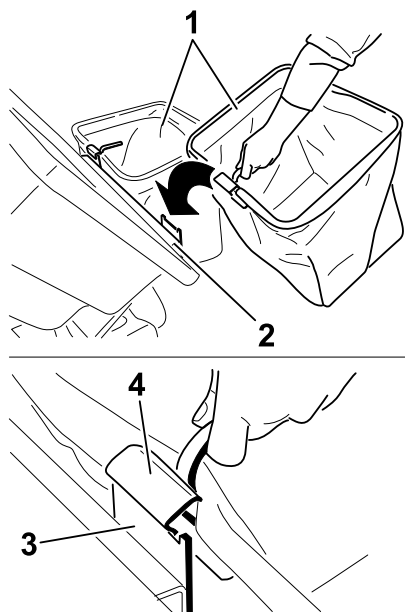

Figure 14
4. Lift the bagger top and install the bags by sliding the bag frame hooks onto the retaining brackets (Figure 14).